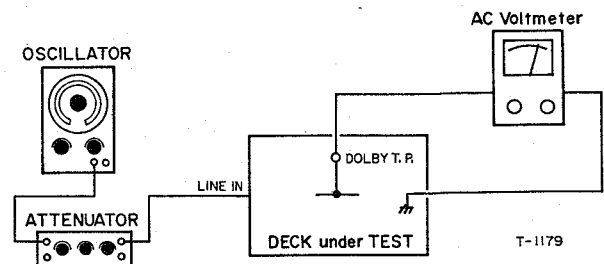

Fig. 6-3 Connection (2)
1. Connect the deck under test and the test equipment as shown in Fig. 6-3 on page 20.